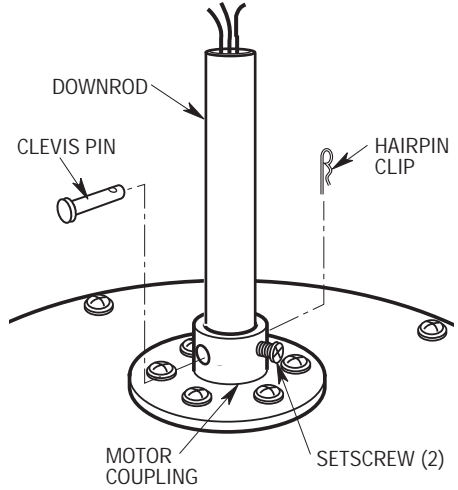

Figure 3
- 3. Separate, untwist and unkink the three motor leads. Route the motor leads through the downrod and seat the downrod in the motor coupling (Figure 3).
- 4. Align the holes in the downrod with the holes in the motor coupling. Install the clevis pin and secure with the hairpin clip (Figure 3). (Pin and clip are supplied in loose parts bag.) The clevis pin must go through the holes in the motor coupling and the holes in the downrod. Push the straight leg of the hairpin clip through the hole near the end of the clevis pin until the curved portion of the hairpin clip snaps around the clevis pin. The hairpin clip must be properly installed to prevent the clevis pin from working loose. Pull on the downrod to make sure the clevis pin is properly installed.
It is critical that the clevis pin in the motor coupling is properly installed and the setscrew securely tightened. Failure to verify that the pin and setscrew are properly installed (as shown in Figure 3) could result in the fan falling.
- 5. While pulling up on the downrod, tighten the setscrew(s) using a phillips screwdriver (Figure 3).